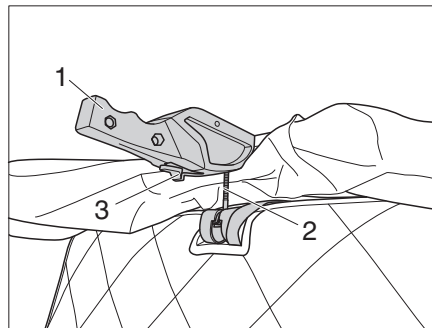

Fig. 5 Releasing the locking mechanisms
- Push forward the locking lever (Fig. 5,3) and at the same time pull down the lock (Fig. 5,1) on the left and right.
- Remove the bolt (Fig. 5,2) from the locking receptacle.